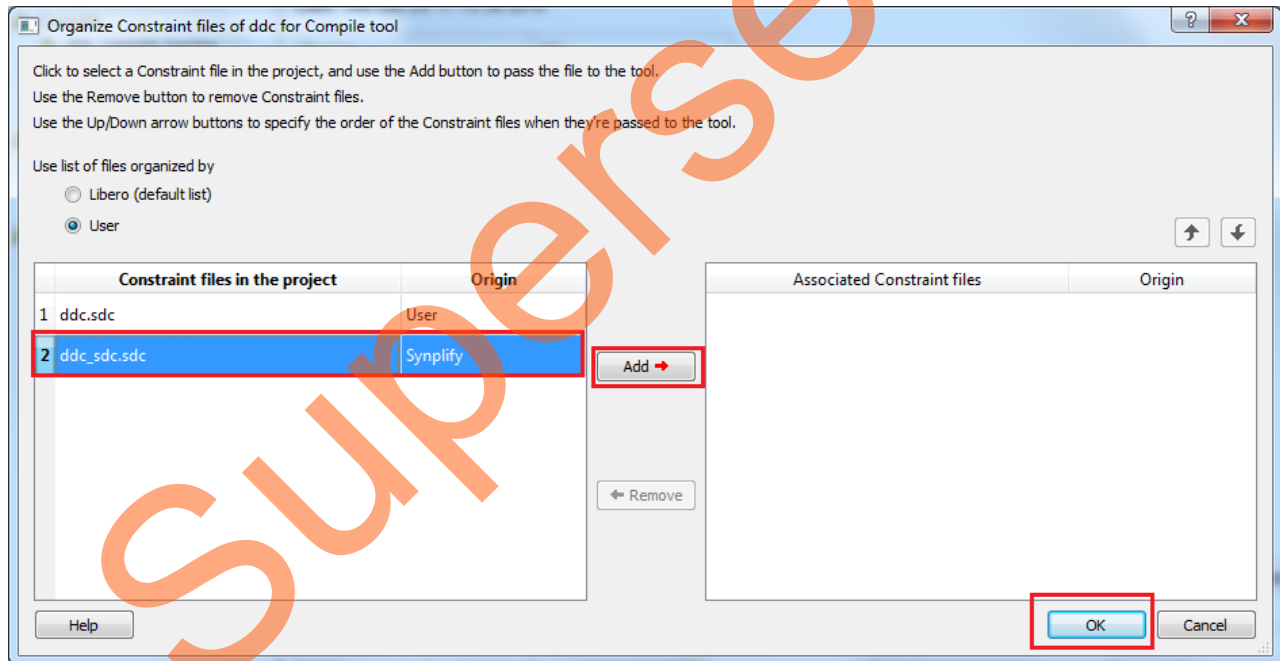

Figure 34. Add Constraint in Compile
2. Select **ddc_sdc.sdc**, click **Add** and click **OK**, as shown in Figure 34.